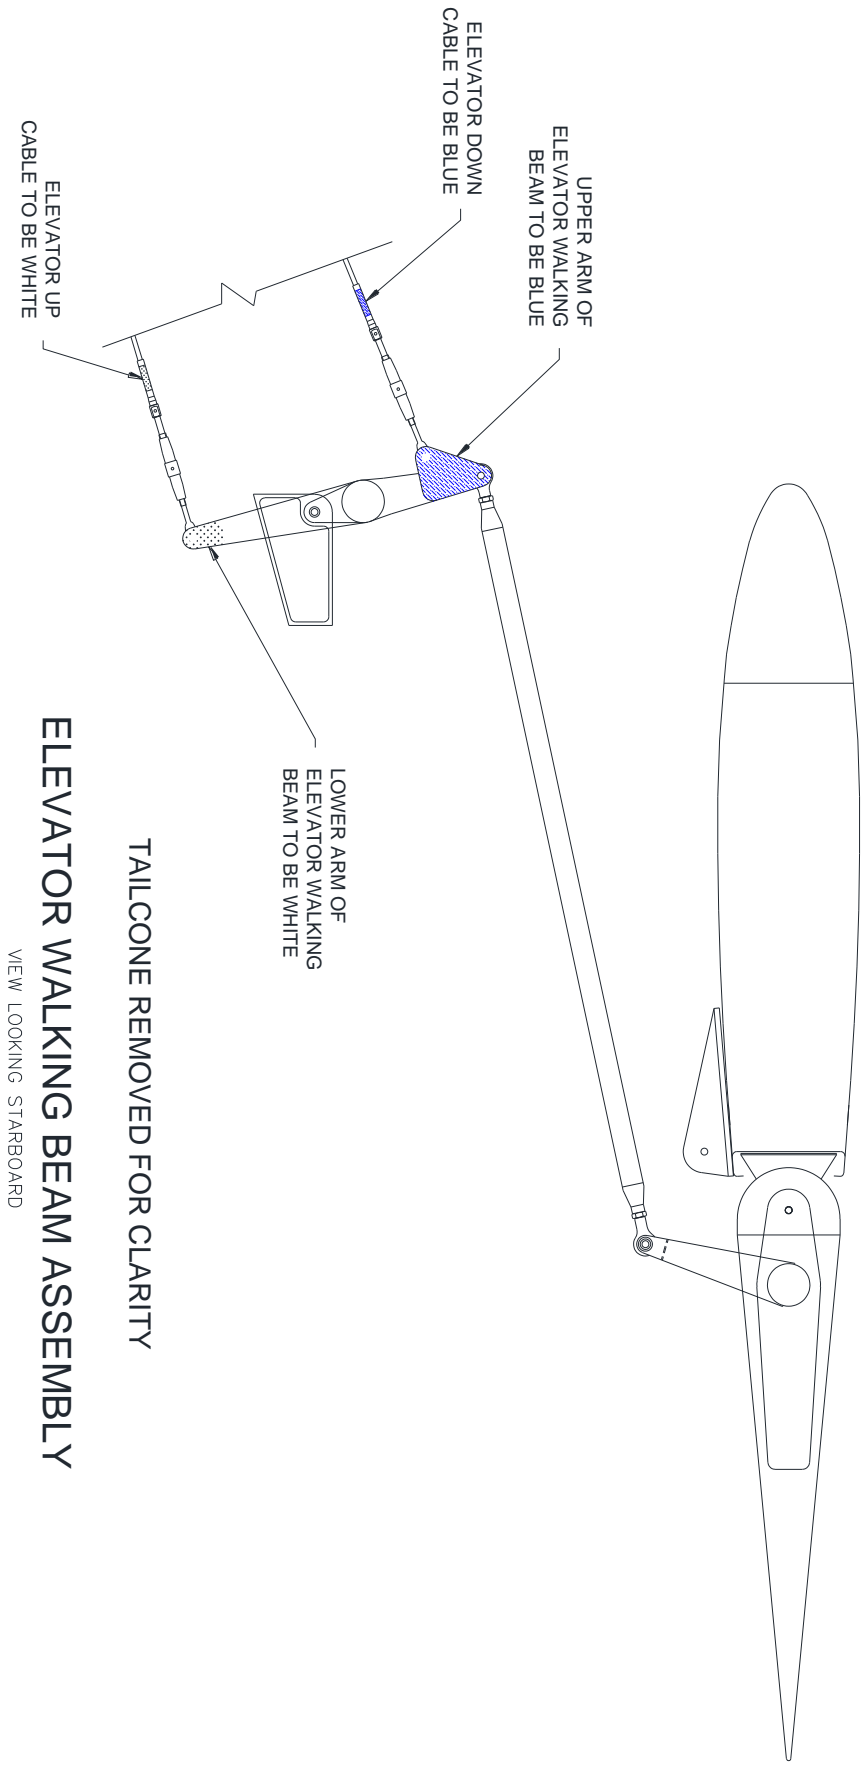

Figure 9 – Elevator Circuit (Aft)
2. Paint the swage on the elevator down cable and the lug on the upper arm of the elevator walking beam with item 3 (BLUE). Paint the swage on the elevator up cable and the lug on the lower arm of the elevator walking beam with item 4 (WHITE) as illustrated in Figure 9. Ensure any incorrect colour coding is completely obscured or removed.